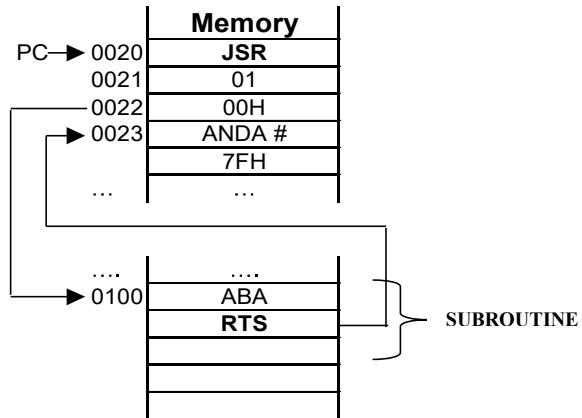

Figure 6.8 - A subroutine execution process
In figure 6.8, the execution of a jump to subroutine instruction (**JSR**) and return from subroutine instruction (**RTS**) are given. After **JSR 0100H** instruction is executed, PC is set to the defined address and execution continues with the **ABA** instruction. The program returns from this subroutine after the **RTS** instruction is executed. Program counter (PC) is set to 0023_{H} and the program execution continues with **ANDA #7FH** instruction.